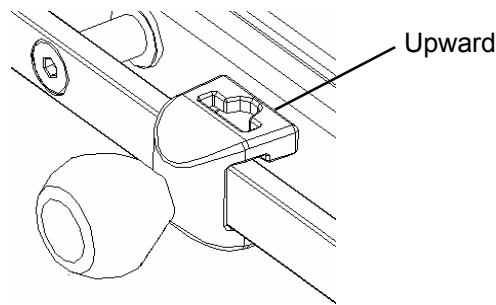

Figure 7-5 Correctly installing the clamp
1. As Figure 7-5 shows, slide the clamp housing onto the side rail of the operating table.
- Be sure to correctly install the clamp, as Figure 7-5 shows. Otherwise, it can fall and cause personal injury and/or property damage.